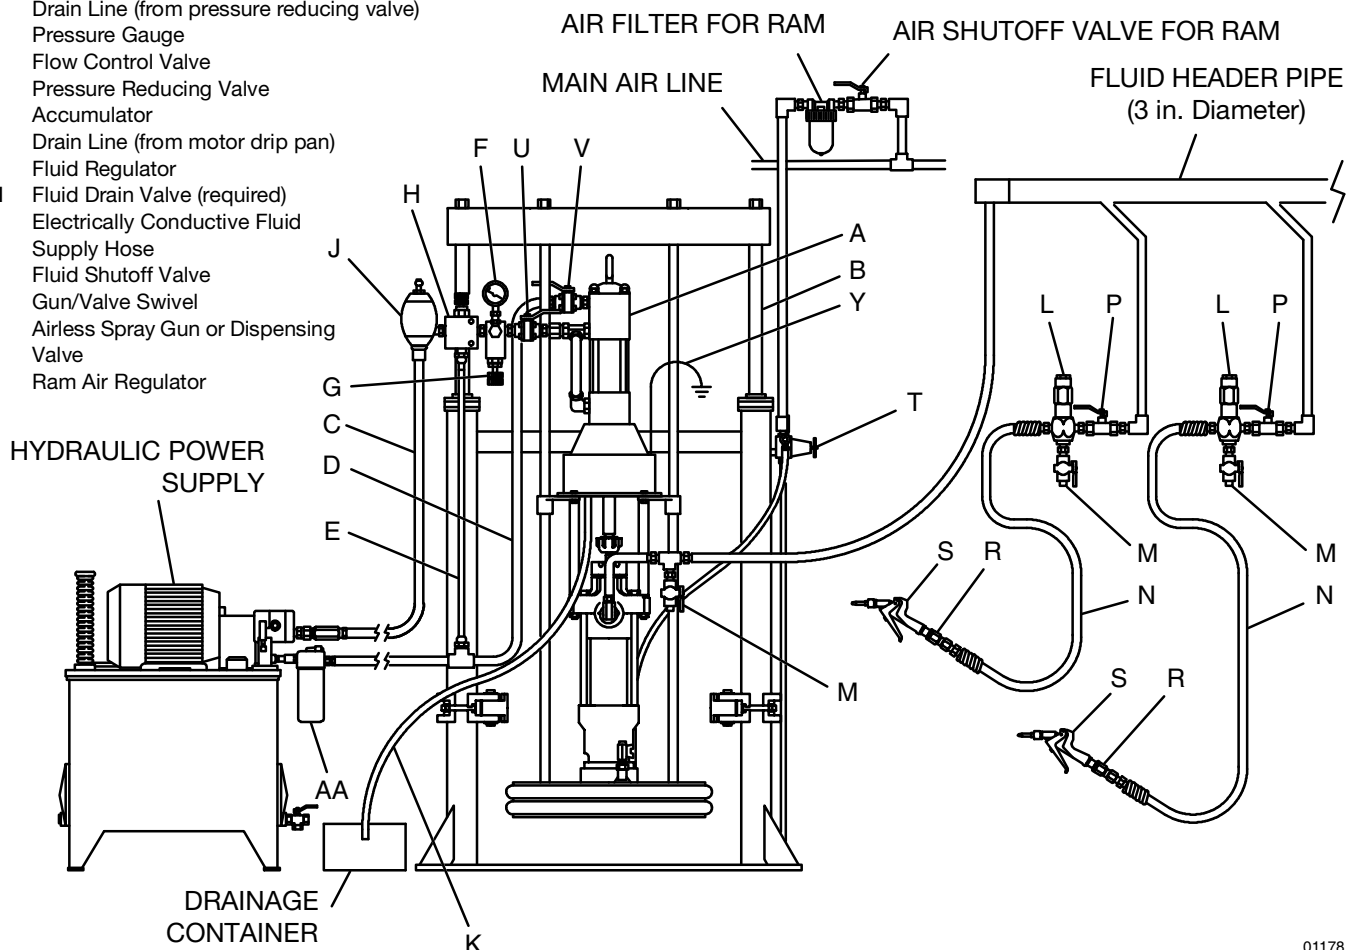

Fig. 4
The Typical Installation shown in Fig. 4 is only a guide for selecting and installing system components and accessories. Contact your Graco distributor for assistance in designing a system to suit your particular needs.
Mount the pump (A) to suit the type of installation planned. Fig. 4 on page 10 illustrates a ram-mounted pump in a multi-gun header system. Pump dimensions and the mounting hole layout are shown on pages 35 and 36.
On the hydraulic supply line (C), install the following accessories in the order shown in Fig. 4, using adapters as necessary:
- **A shutoff valve (U)** to isolate the pump for servicing.
- **A fluid pressure gauge (F)** to monitor hydraulic oil pressure to the motor and to avoid overpressurizing the motor or displacement pump, and **a pressure and temperature-compensated flow control valve (G)** to prevent the motor from running too fast and possibly damaging itself.
- **A pressure reducing valve (H), with a drain line (E)** running into the hydraulic return line (D).
- **An accumulator (J)** to reduce the hammering effect caused by the motor reversing direction.
On the hydraulic return line (D), install the following accessories in the order shown in Fig. 4, using adapters as necessary:
- **A shutoff valve (V)** to isolate the pump for servicing.
- **A filter (AA)** of 10 micron size.
Install the following accessories in the positions shown in Fig. 4, using adapters as necessary:
- Install a **fluid shutoff valve (P)** at each gun drop, to isolate the gun and fluid accessories for servicing.
- Install a **fluid drain valve (M)** near the pump fluid outlet, and at each gun station. The drain valves are required in your system to relieve fluid pressure in the displacement pump, hose and gun (see the **WARNING** at left). Drain valves at the gun stations may be mounted in the base of a **fluid regulator (L)**, using an adapter.
- **A fluid regulator (L)** controls fluid pressure to the gun/valve, and dampens pressure surges.
- **A gun or valve (S)** dispenses the fluid. The gun shown in Fig. 4 is a high pressure dispensing gun for highly viscous fluids.
- **A gun swivel (R)** allows freer gun movement.
Refer to Fig. 4 on page 10. Check the hydraulic fluid level before each use, and add fluid as necessary. Make certain that the supply line shutoff valve (U) and the return line shutoff valve (V) are closed, then start the hydraulic power supply.